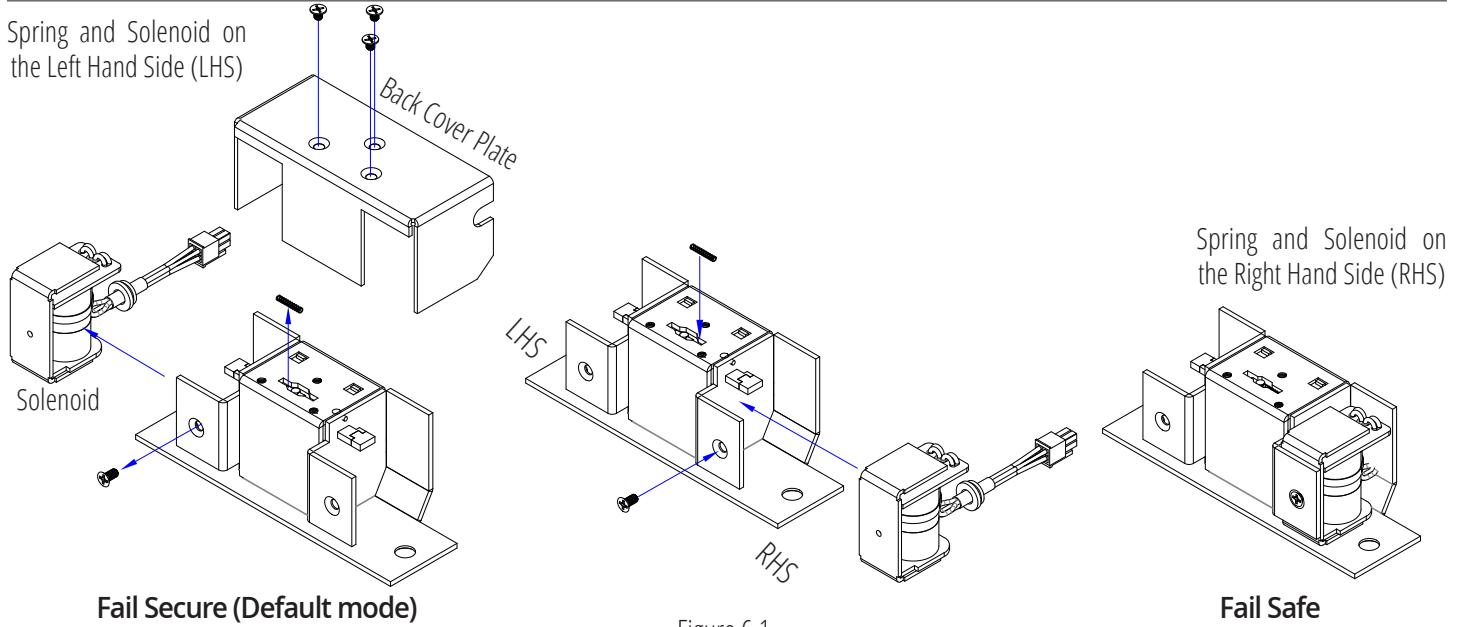

Figure 6.1
1. Loosen and remove the screws from the back of the strike as shown in the Figure 6.1.